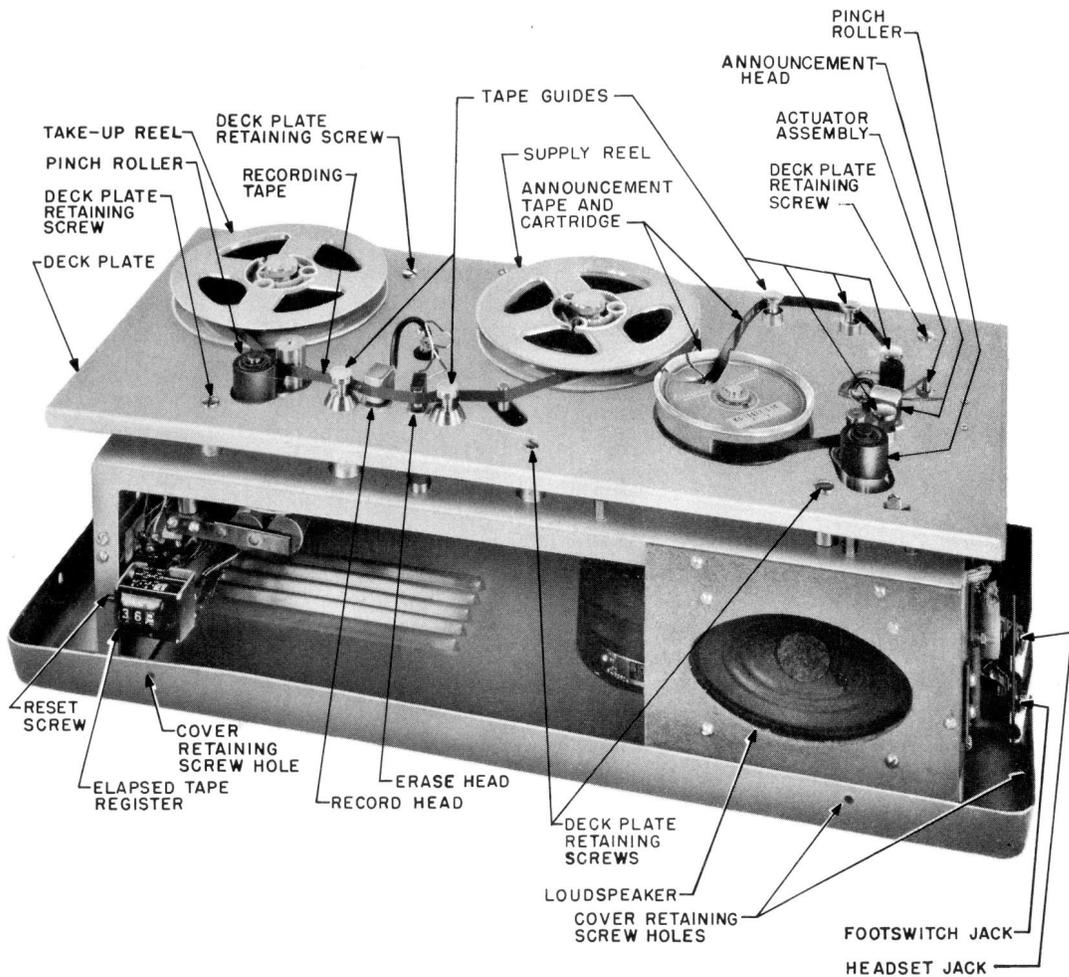

Fig. 2—KS-16923, List 5 Recorder (Assembled to Bottom Pan)
2.01 KS-16923, List 5 recorder (Fig. 2)
- (1) Insert power cord into ac outlet and rewind list 11 recording tape onto supply reel.
- (2) Remove power cord.
- (3) Remove supply and take-up reel.
- (4) Remove list 10 announcement cartridge.
- (5) Remove cover:
- (6) Remove deckplate.
- Remove five deckplate retaining screws (Fig. 2).
- (7) Disengage idler spring from idler spring support.
- (8) Remove hex nut.
- (9) Remove faulty motor belt.
- (10) Place new belt over pulley and motor shaft.
- (11) To reassemble, reverse procedure.